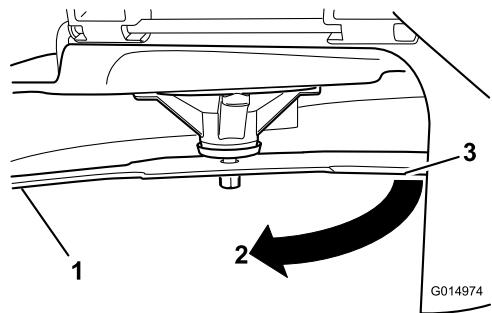

Figure 48
- Measured distance between blade and the surface (A)
- Rotate the same blade 180 degrees, so that the opposing cutting edge is now in the same position (Figure 48).